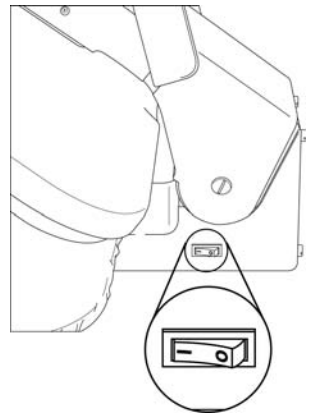

FIGURE 1
1. With Pressing Plate in lifted position, plug power cord into electrical outlet, and set On/Off Switch to “On” (I) position (FIGURE 1).
IMPORTANT: Auto Shut-Off does not mean that power to the unit is totally cut off. Power is always on, and the Power Indicator Light will remain illuminated until On/Off Switch is set to “Off” (O) position (FIGURE 1, page 7).